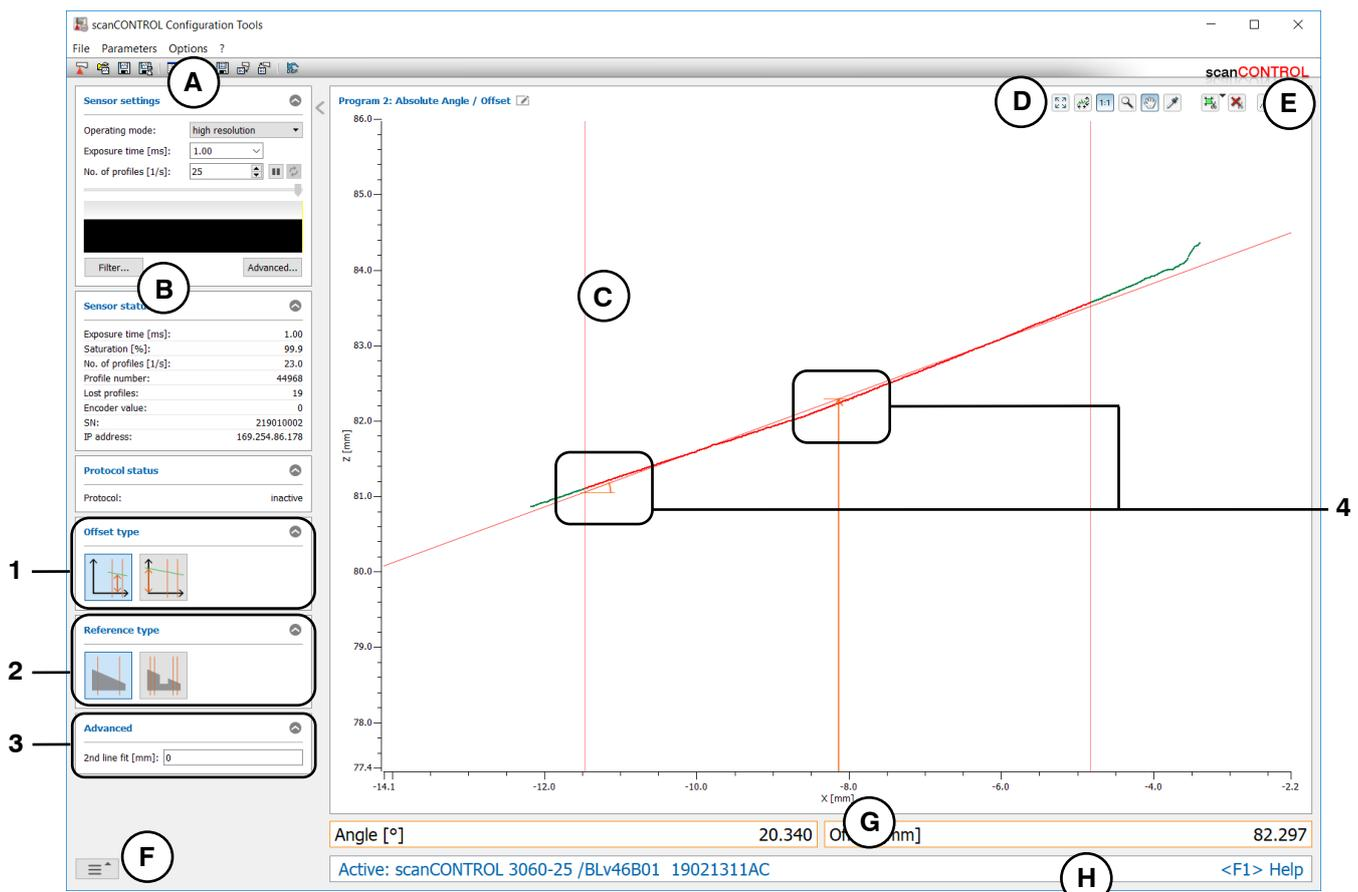

Fig. 4.8: "Absolute Angle/Offset" measuring program
- Define the algorithm for the calculation of the offset (see Fig. 4.8, Chapter 4.3.1 and Chapter 3.13.1):
- Select the type of line fitting (see Fig. 4.8 and Chapter 3.13.1)